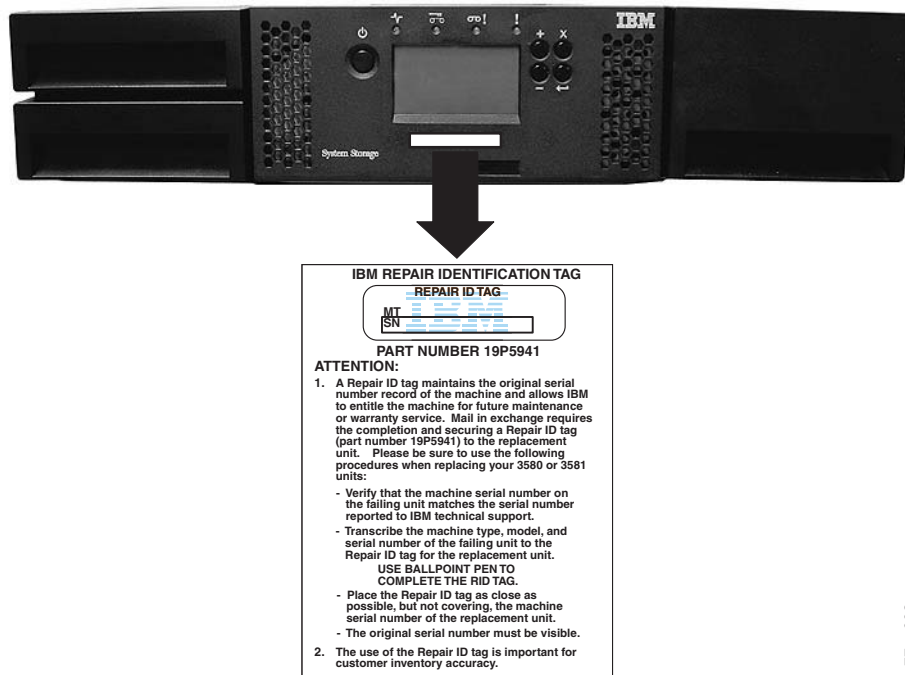

Figure 10-29. Proper placement of the Repair Identification (RID) Tag
- b. Apply the tag to the front of the new replacement library enclosure (as shown in Figure 10-29)